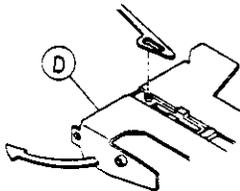

FIGURE 4-27. EJECT ARM
- g. Under cassette-in condition, insert the slider shaft F into the eject arm, and mount it as illustrated by rotating it in direction shown by the arrow (see Figure 4-27).